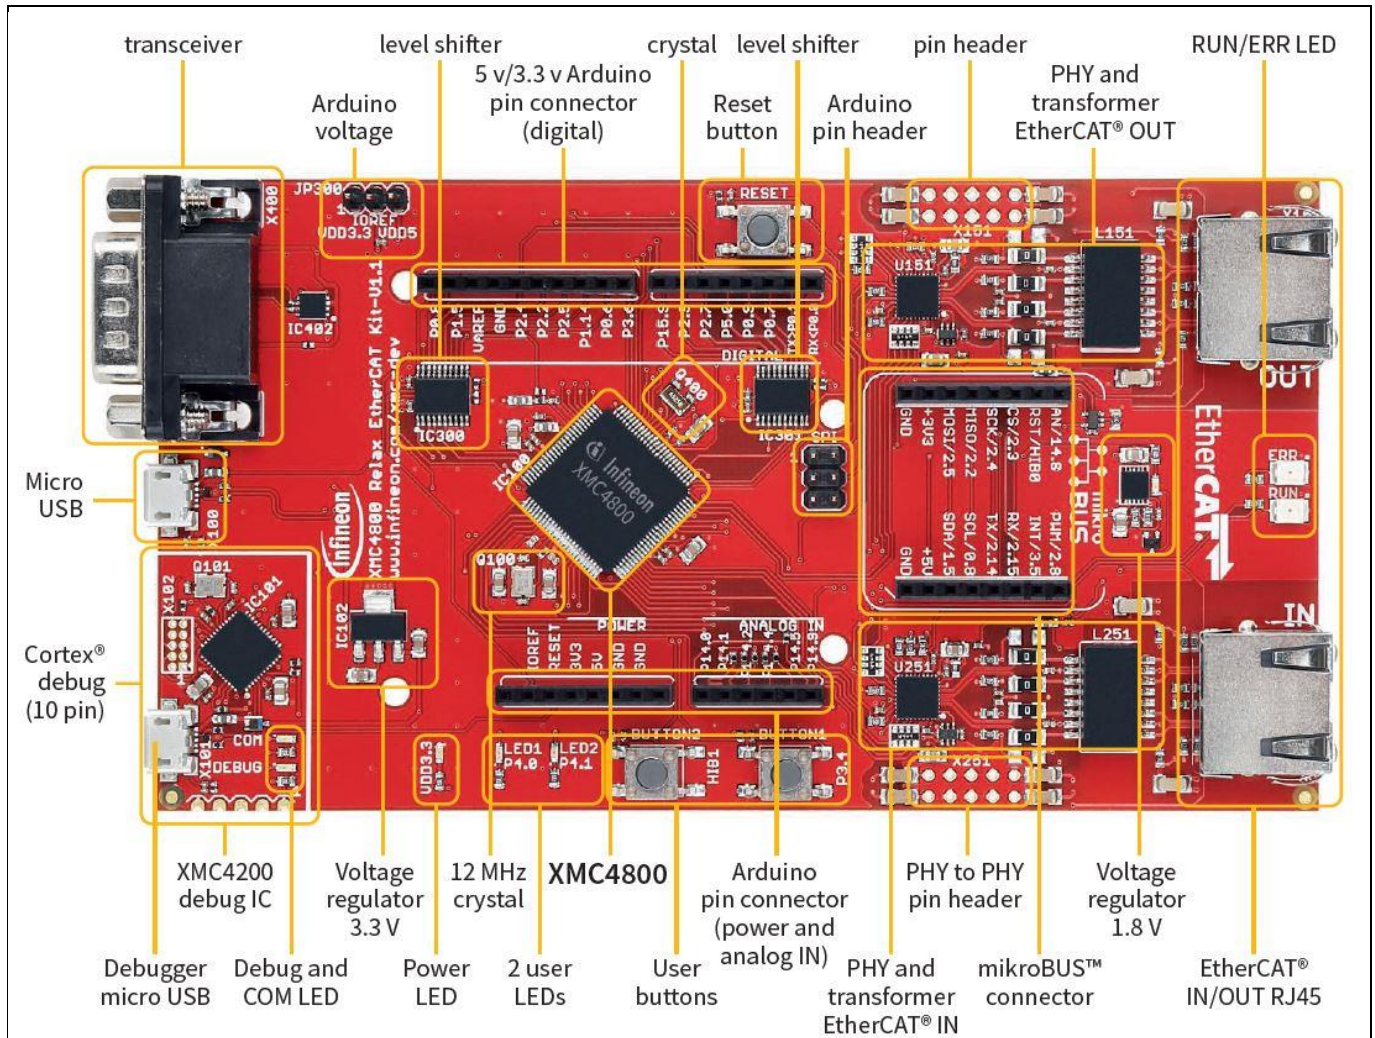

Figure 3 XMC4800 IoT Connectivity kit
2. Power up the kit by connecting Micro USB cable between PC and Debugger micro USB. For placement of Debugger micro USB refer Figure 3.